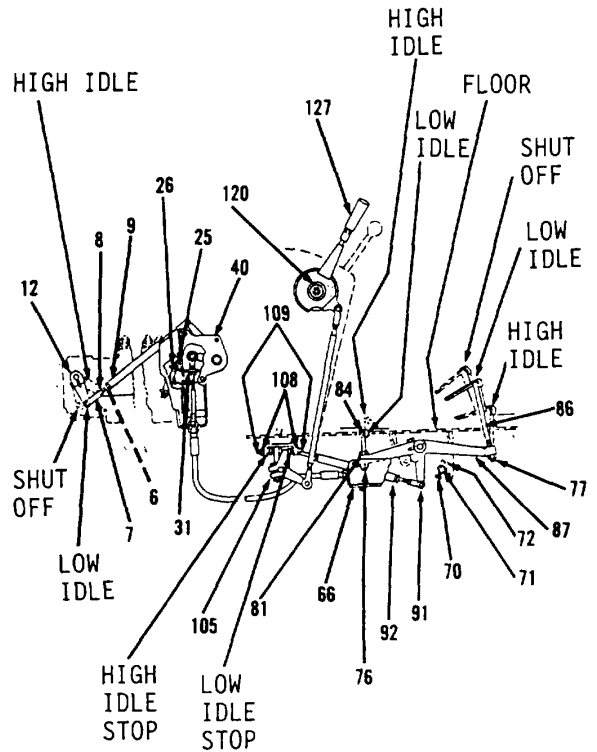

Figure 3-176.
1. Tighten nut (120) on operator's control console until position of handle (127) is not affected by movement of treadles (86 and 84, Figure 3-176).
3. Separate rod end (7) and lever (12, Figure 3-176).
4. Loosen two nuts (108) and bolts (109) under right side of operator's compartment. Turn bolts (109) out far enough to keep lever (105) from making contact.
5. Position handle (127) in operator's control console. Push forward into low idle position.
6. Adjust low idle bolt (109) under right side of operator's compartment until contact with lever (105) is made.
7. Tighten nuts (108).
8. Remove nut (70), washer (71) and bolt (72).
9. Separate lever (87) and two rod ends (91).
10. Adjust two rod ends (91) until distance between top of lever (87) and operator's compartment floor is 1.5 inch.
11. Tighten two nuts (92).
12. Aline two rod ends (91) and lever (87).